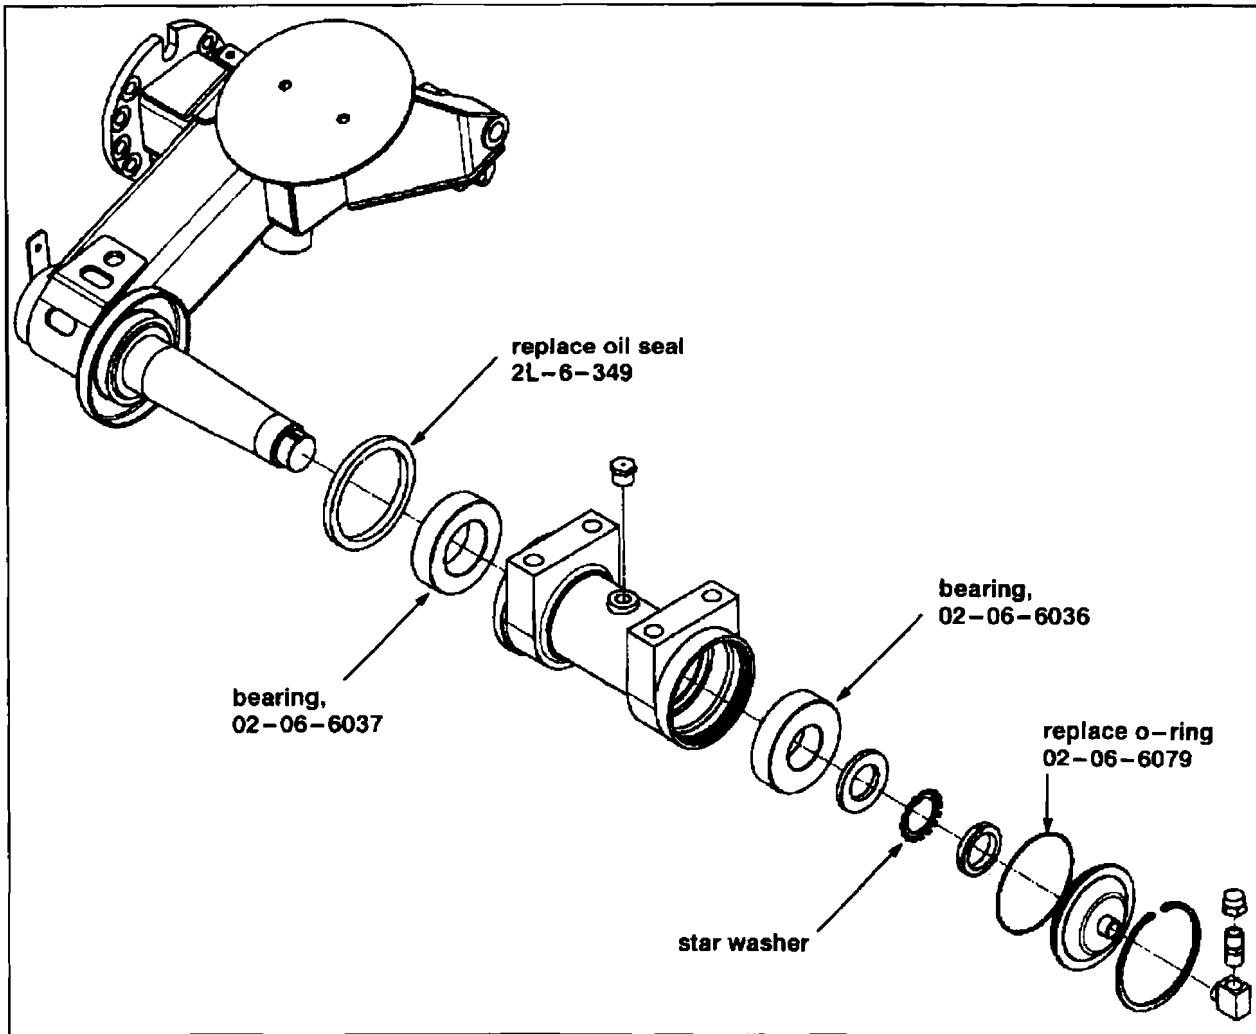

Figure 10.
Replace the oil seal (part number 2L-6-349), o-ring (part number 02-06-6079) and bearing box lubricant after every disassembly (Figure 10).
20. Install bearing box assembly onto the re-worked tag arm assy, taking care to ensure that the seal is not damaged. Install "outer" bearing, flat washer, star washer, and lock nut (Figure 10). Torque the nut to 95–105 lb–ft. while rotating the bearings on the arm. Back off, and re-torque to 29 – 32 lb–ft., while again rotating the bearings on the arm. Bend a tab from the star washer into one of the notches in the nut. Replace o-ring (part number 02-06-6079) and install end cap and snap ring (Figure 10).